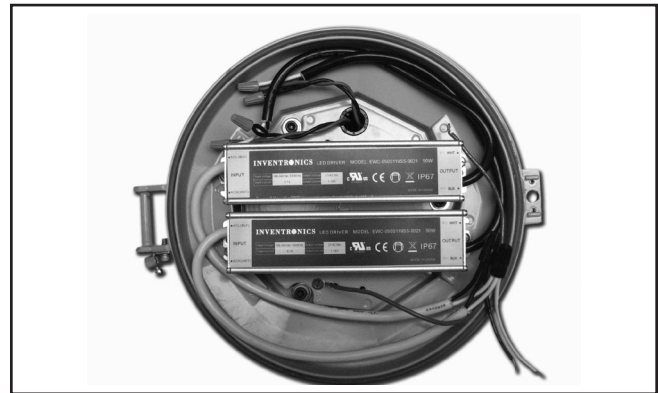

Figure 4.
4. At workbench, remove wire nut connections from both LED drivers' DC outputs to LED module (Figure 4.).